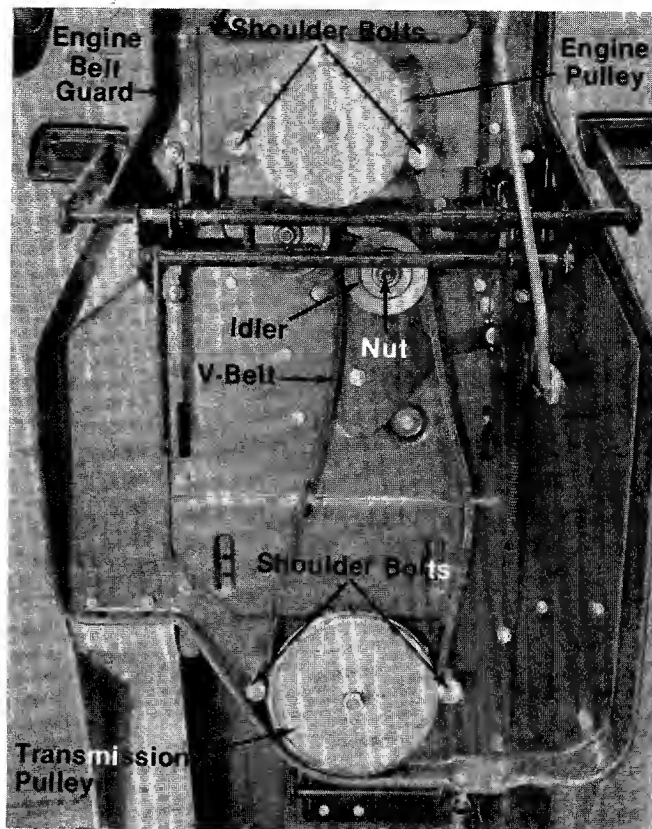

FIGURE 35.
2. Remove the two shoulder bolts by the engine pulley. See figure 35.
5. Remove the two shoulder bolts from the engine pulley. See figure 35.
8. Remove the engine belt guard. See figure 35.
9. Remove the nut on the V-idler and slide the idler off the bracket. See figure 35.
10. Remove the two shoulder bolts by the transmission pulley. See figure 35.